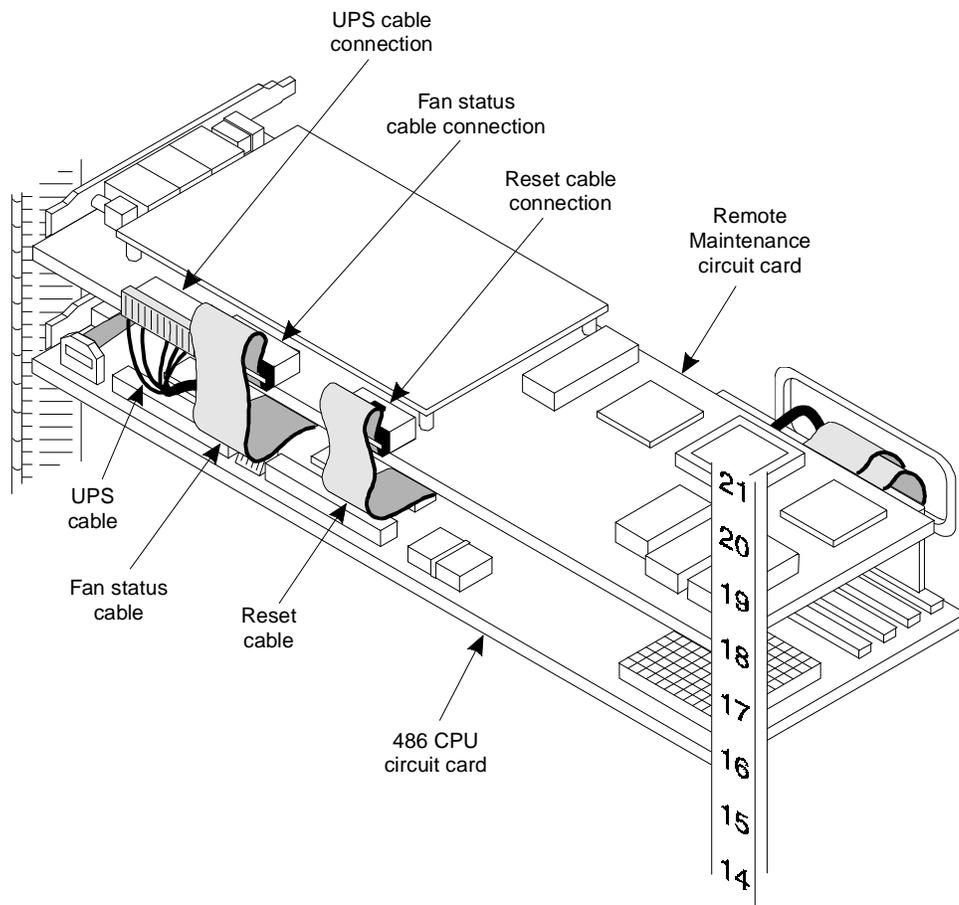

Figure 9-30. Remote Maintenance Circuit Card Installed and Cabled in the MAP/100
8. Attach the reset, fan, and UPS cables to the card as shown in Figure 9-30.